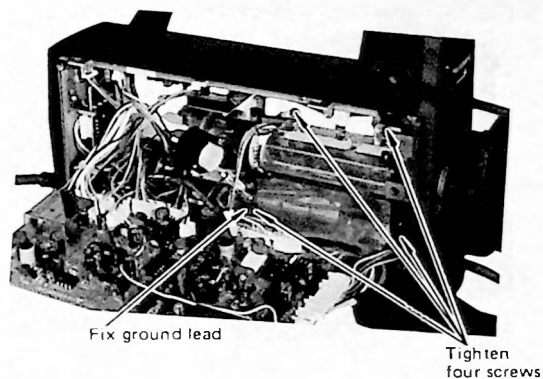

Fig. 3-10
- Attach the shield plate for preamplifier with the four screws. (Fig. 3-10)
Note: When attaching the shield plate, also fix the ground leads for the deflection coil and the preamplifier circuit board. (Fig. 3-10)